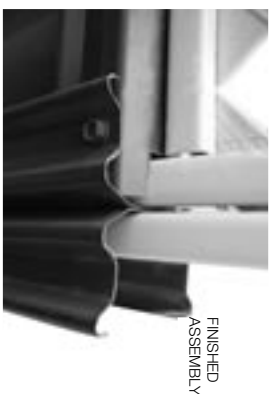

Fig. 9a
8. Refit all fence sheets and top tracks and secure with the original screws as shown in Fig. 9a and 9b.